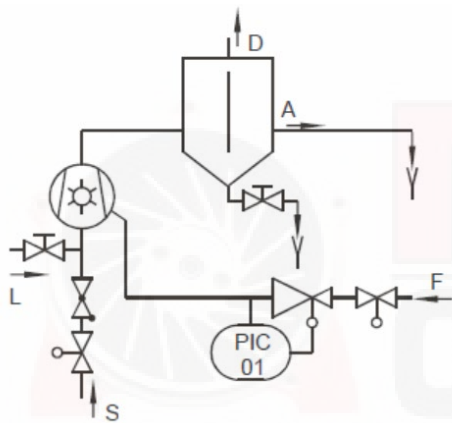

Fig. 9 Continuous-flow cooling
- Set the pressure in the operating liquid pipe to max. 0.2 bar overpressure. Please see Fig. 9 for continuous-flow cooling.